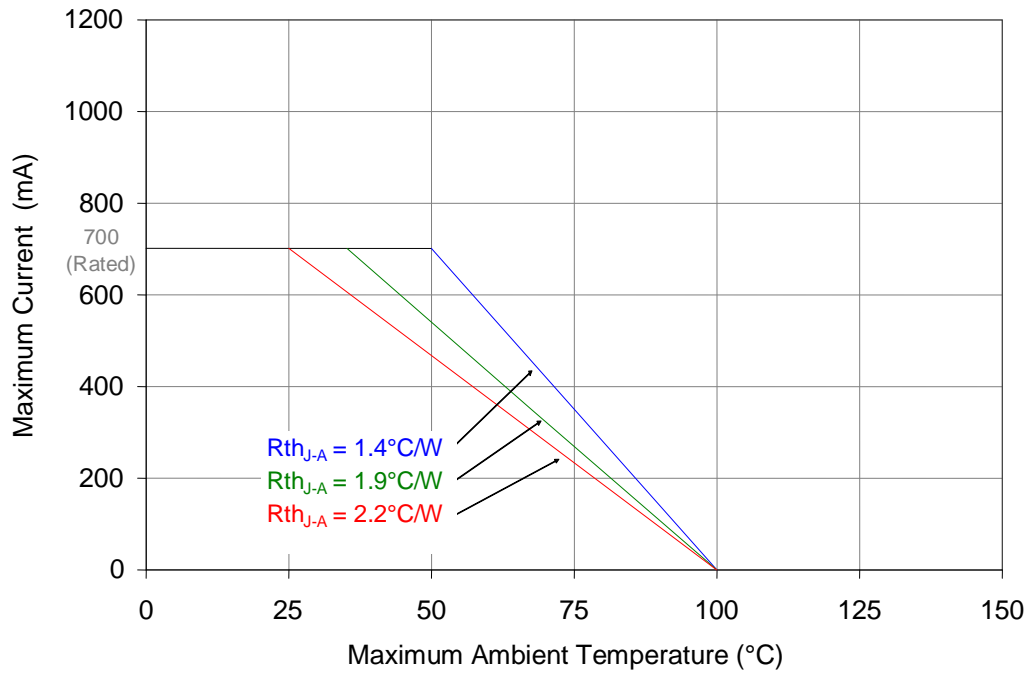

Figure 10: Maximum forward current vs. ambient temperature based on  $T_{J(MAX)} = 100^{\circ}C$ .
- Maximum DC forward current (per die) is determined by the overall thermal resistance and ambient temperature. Follow the curves in Figure 10 for current derating.
Notes for Figure 10: